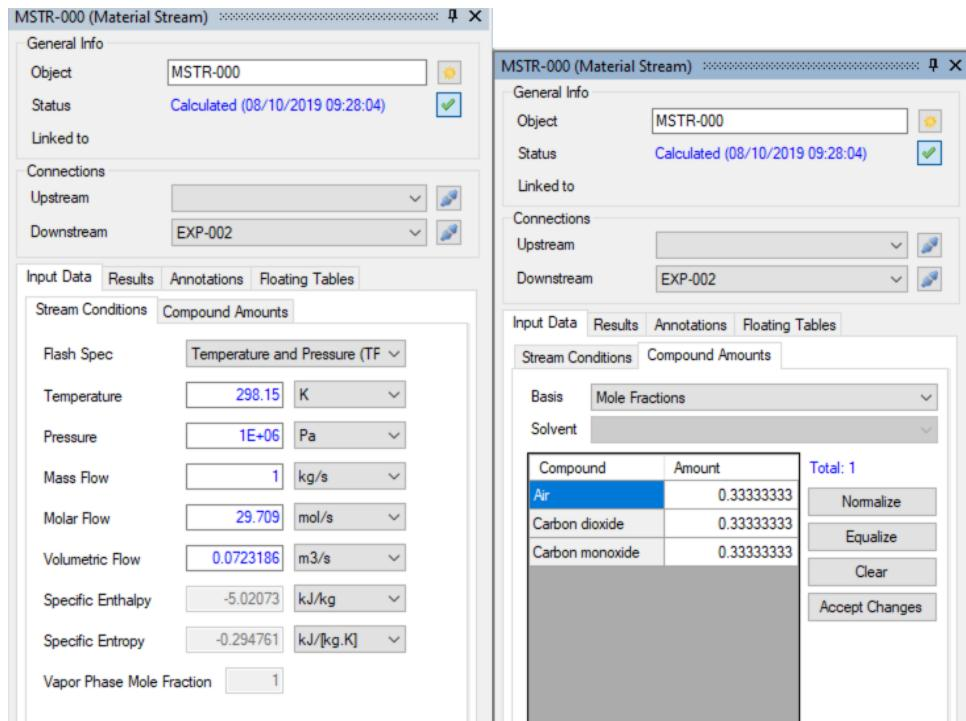

Figure 26: Viewing object properties in the editor window.
**Entering process data** The objects' process data (temperature, pressure, flow, composition and/or other parameters) can be entered in the property editor window (Figure 26). Properties that cannot be edited (read-only) are grayed-out.